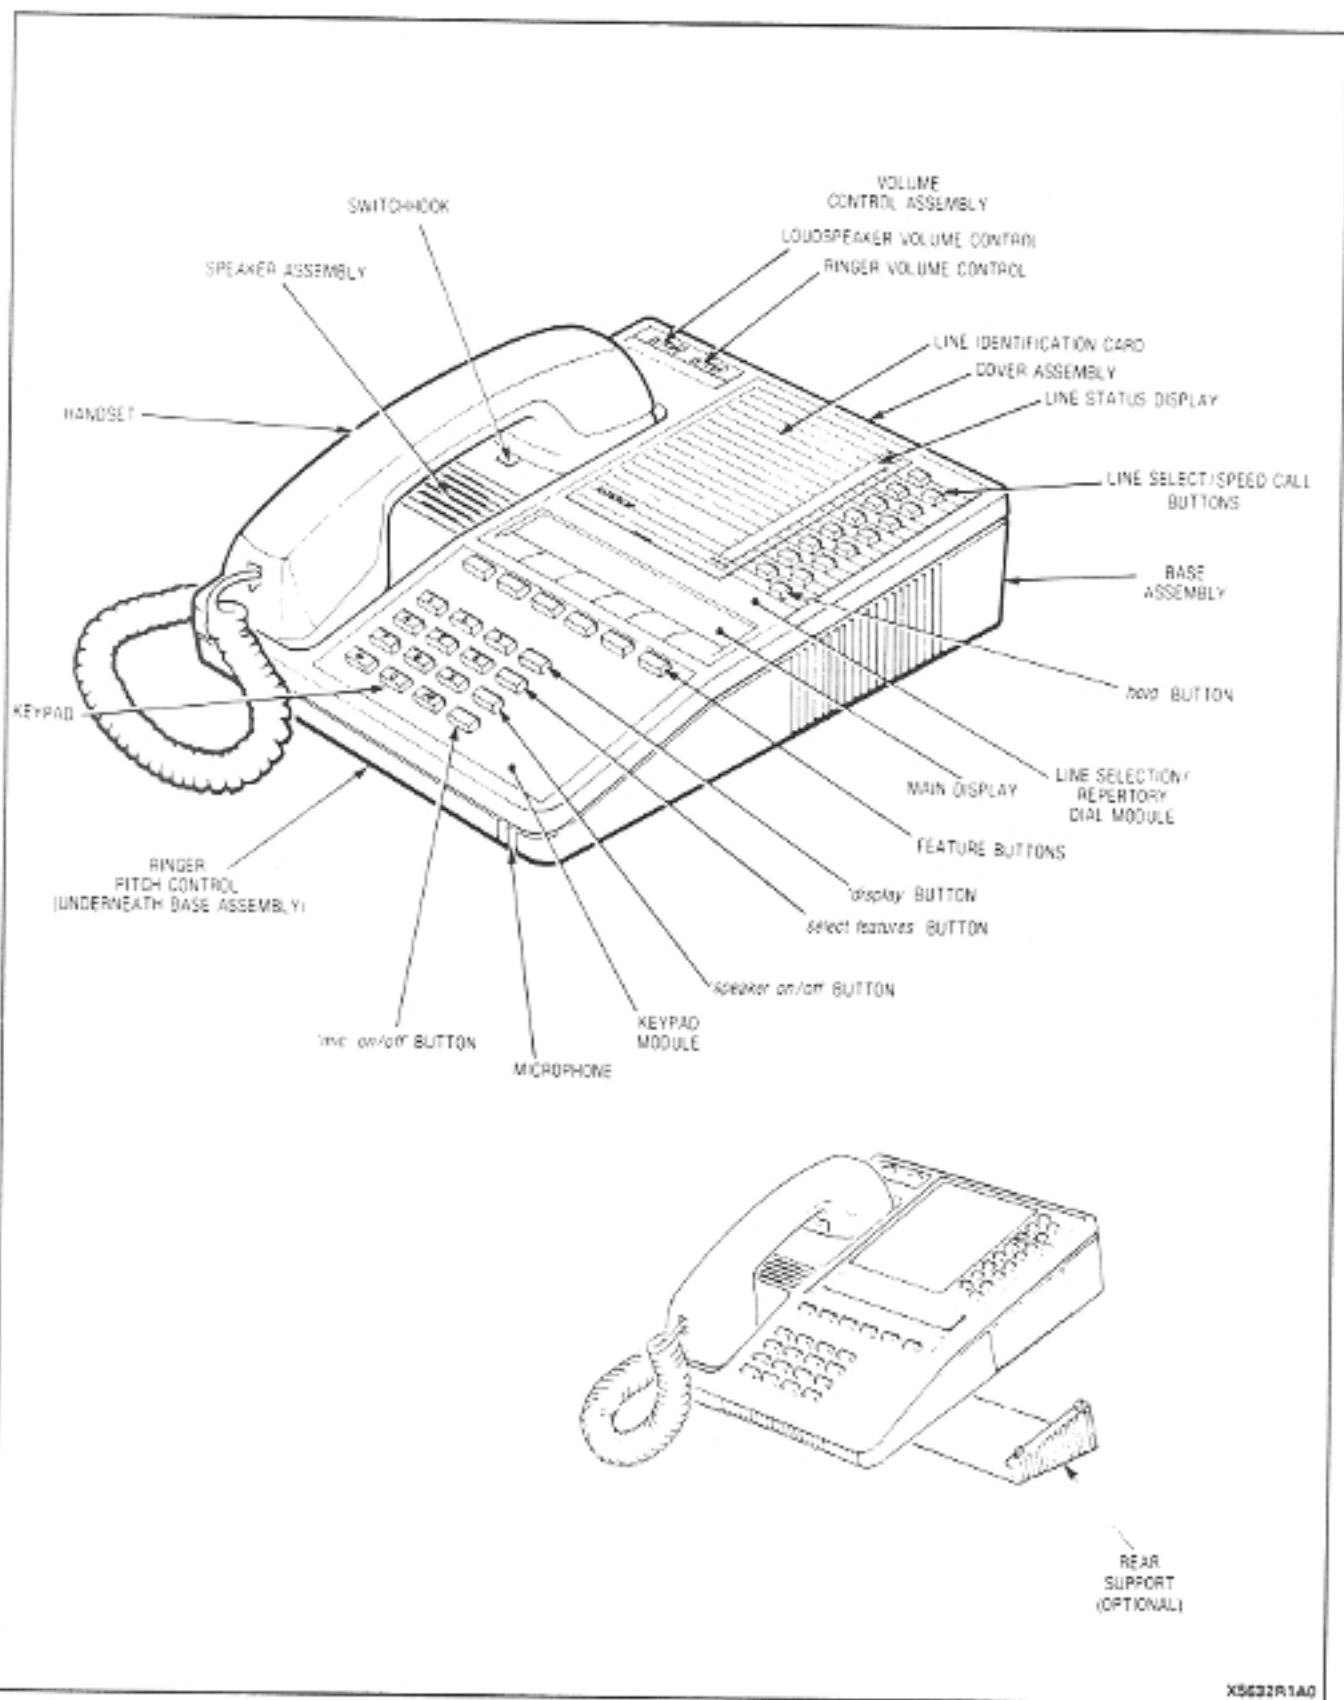

Figure 3-2 SUPERSET 4
**3.04** The body of the SUPERSET 4 comprises two parts - a base assembly and a cover assembly (see Figure 3-2).